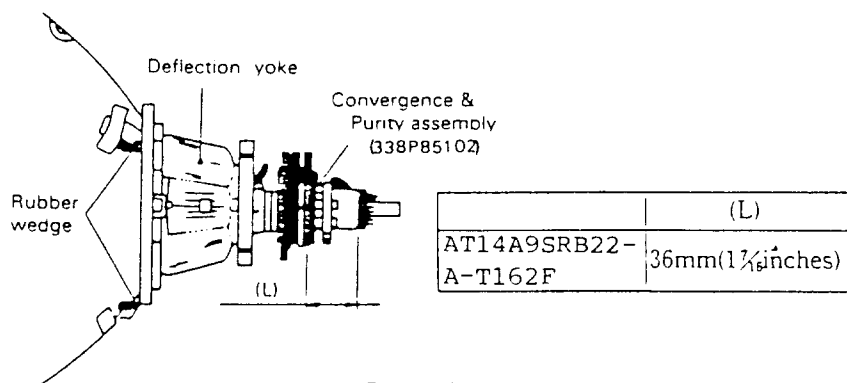

Figure 1
- (1) Remove the deflection yoke and the rubber wedges from the picture tube cone, taking care not to strike or scratch the cone surface.
- (2) Clean the remaining cement off the deflection yoke and the surface of the picture tube cone.
- (3) Put the deflection yoke on the neck of the picture tube, fully forward against the cone of the CRT.
- (4) Put the Convergence-Purity Assembly on the neck of the picture tube so that the distance between the 6-pole magnet and the base of the tube is 36 mm ($1\frac{1}{4}$ inches), as shown in Figure 1, and hand-tighten the screw.
- (5) Demagnetize the front and sides of the picture tube with a degaussing coil.